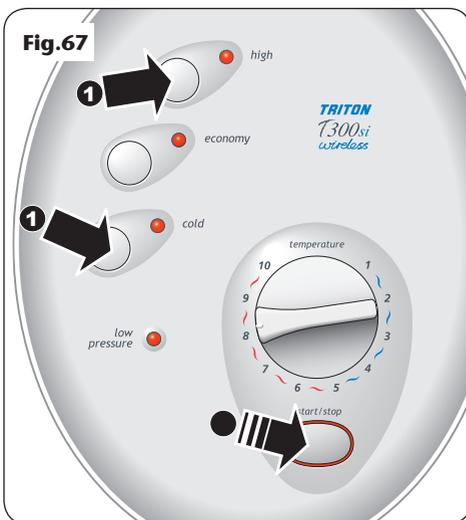

Fig.67
With the remote pack emitting a continual tone, simultaneously press and hold the HIGH (1) and COLD (1) buttons and then press and release the Start/Stop button (2) (**Fig.67**).